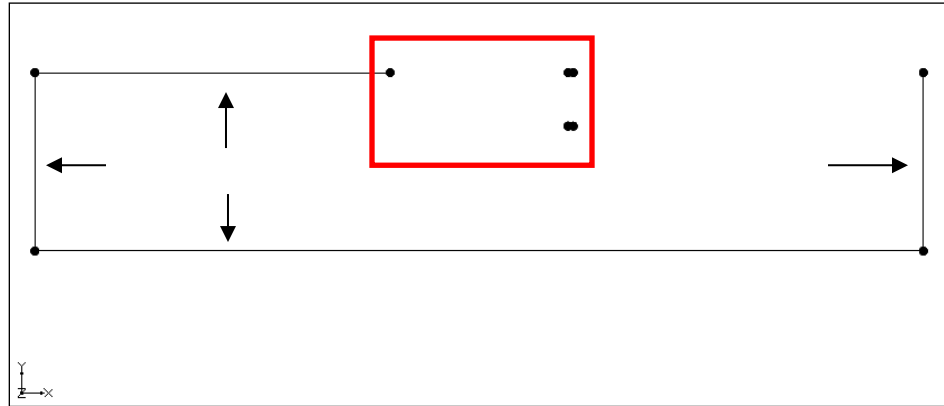

Figure 4 Initial arcs
2. Using the **Create Arc**  tool, create the arcs indicated with arrows in Figure 4.
3. Using the **Zoom**  tool, drag a box similar to that shown by the red box in Figure 4.